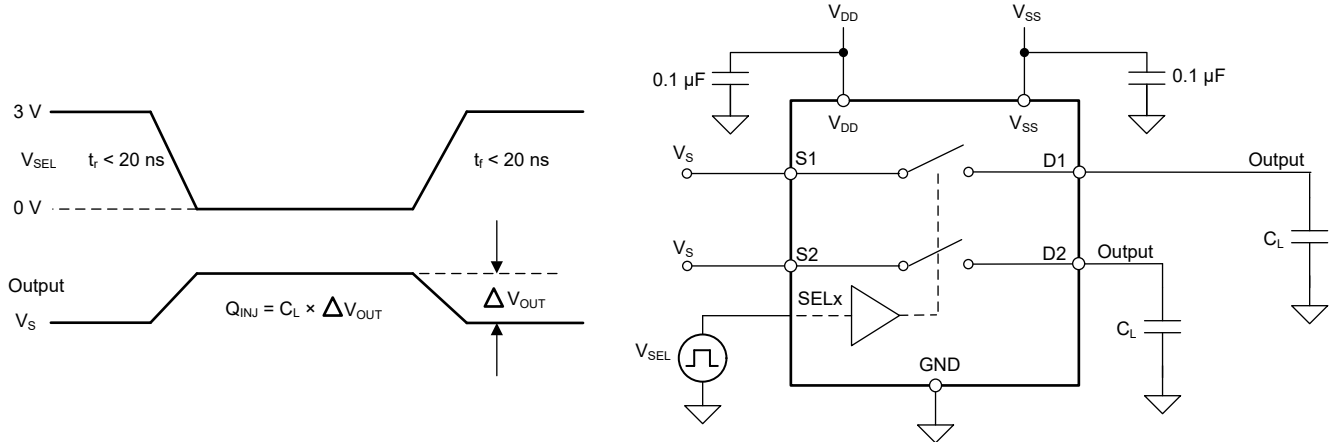

Figure 6-7. Charge-Injection Measurement Setup
The TMUX622x has a transmission-gate topology. Any mismatch in capacitance between the NMOS and PMOS transistors results in a charge injected into the drain or source during the falling or rising edge of the gate signal. The amount of charge injected into the source or drain of the device is known as charge injection, and is denoted by the symbol Q_C . Figure 6-7 shows the setup used to measure charge injection from source (Sx) to drain (D).